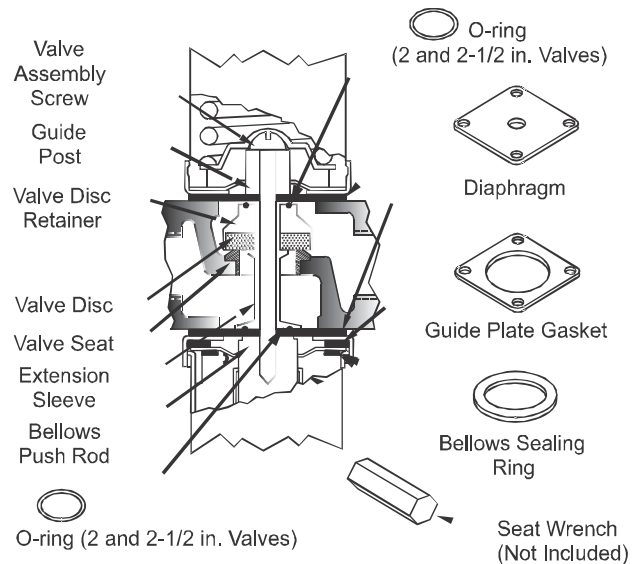

Figure 3: V46 and V47, 2 in. and 2-1/2 in. Valves
3. Remove the valve assembly screw (Figure 3).
4. Remove the guide post and old diaphragms (Figure 3).
5. Remove the sensing element and the diaphragms between it and the valve body (Figure 3).
6. Pull the disc, disc retainer, and extension sleeve assembly from the valve (Figure 3).
7. Remove the old valve seat and replace it with the new valve seat (Figure 3). (A seat wrench is not provided for 2 and 2-1/2 in. valves. Use 1-1/2 and 1-15/16 in. hex stock, respectively.)
13. Screw the valve assembly screw through the guide post and into the bellows push rod (Figure 3).